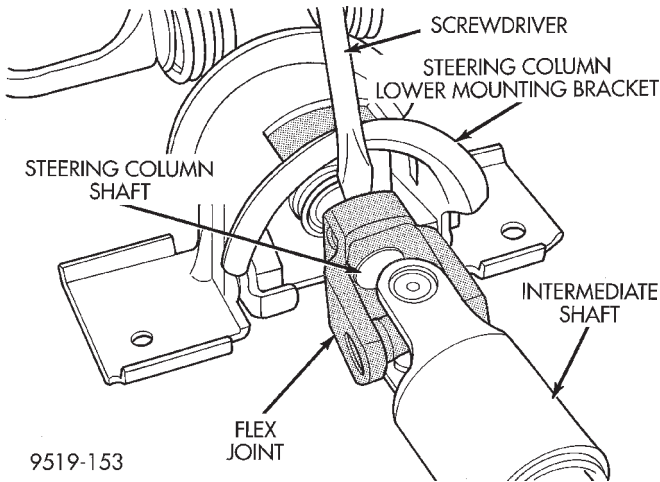

Fig. 26 Removing Flex Joint From Steering Column Shaft
(3) While holding hex on end threaded rod, tighten the nut on threaded rod of Puller, Special Tool 6831-A. This will pull the roll pin out of the flex joint.
(4) Using a screwdriver inserted between the flex joint and the steering column lower mounting bracket (Fig. 26) pry flex joint off steering column shaft.